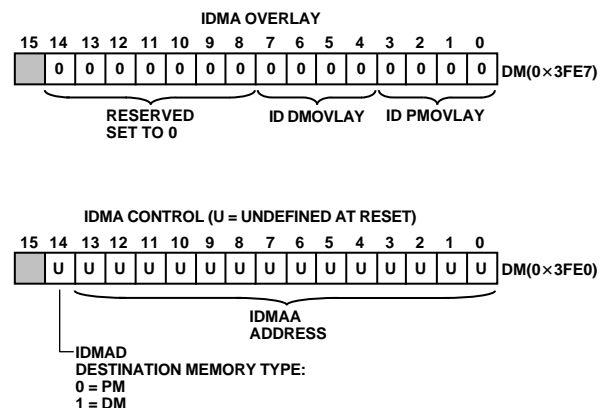

Figure 8. IDMA Control/OVLAY Registers
Through the IDMAA register, the DSP can also specify the starting address and data format for DMA operation. Asserting the IDMA port select (IS) and address latch enable (IAL) directs the ADSP-2187L to write the address onto the IAD0-14 bus into the IDMA Control Register. If IAD[15] is set to 0, IDMA latches the address. If IAD[15] is set to 1, IDMA latches OVLAY memory. The IDMA OVLAY and address are stored in separate memory-mapped registers. The IDMAA register, shown below, is memory mapped at address DM (0x3FE0). Note that the latched address (IDMAA) cannot be read back by the host. The IDMA OVLAY register is memory mapped at address DM (0x3FE7). See Figures 8 and 9 for more information on IDMA and DMA memory maps.